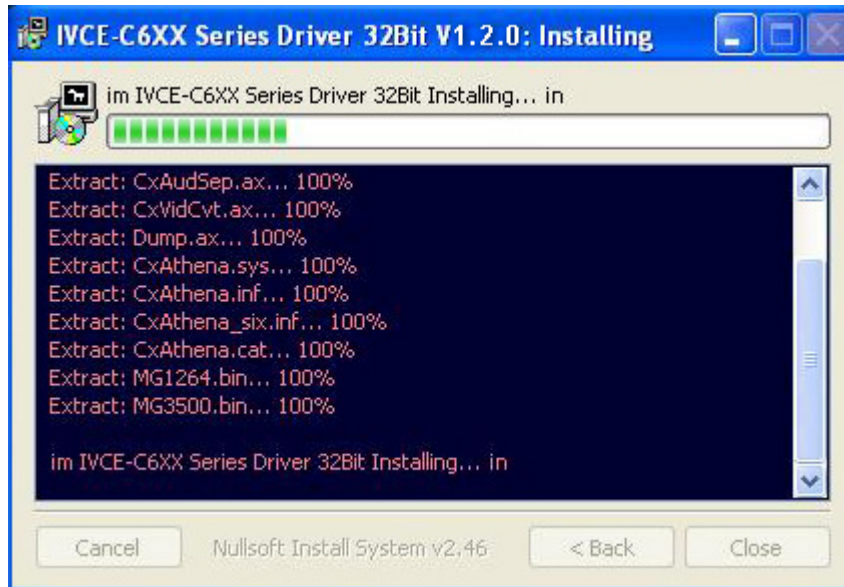

Figure 6-5: Driver Installing
Step 8: The driver starts to install and the screen in **Figure 6-5** appears.